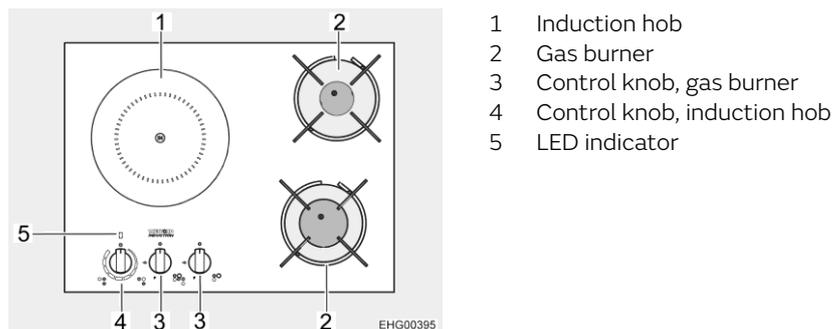

Fig. 142 Hybrid hob
The hybrid hob is equipped with two gas burners (Fig. 142,2) and one induction hob (Fig. 142,1).
- Turn the control knob (Fig. 142,3) of the desired gas burner (Fig. 142,2) to the ignition position (large flame).
- Turn the control knob (Fig. 142,3) to 0 position. The flame fades.
- Turn the control knob (Fig. 142,4) in a clockwise direction to the desired output level.
- Turn the control knob (Fig. 142,4) in a clockwise direction to the 0 position.
- ▷ When the induction hob is switched on, an LED indicator (Fig. 142,5) shows the output level set.